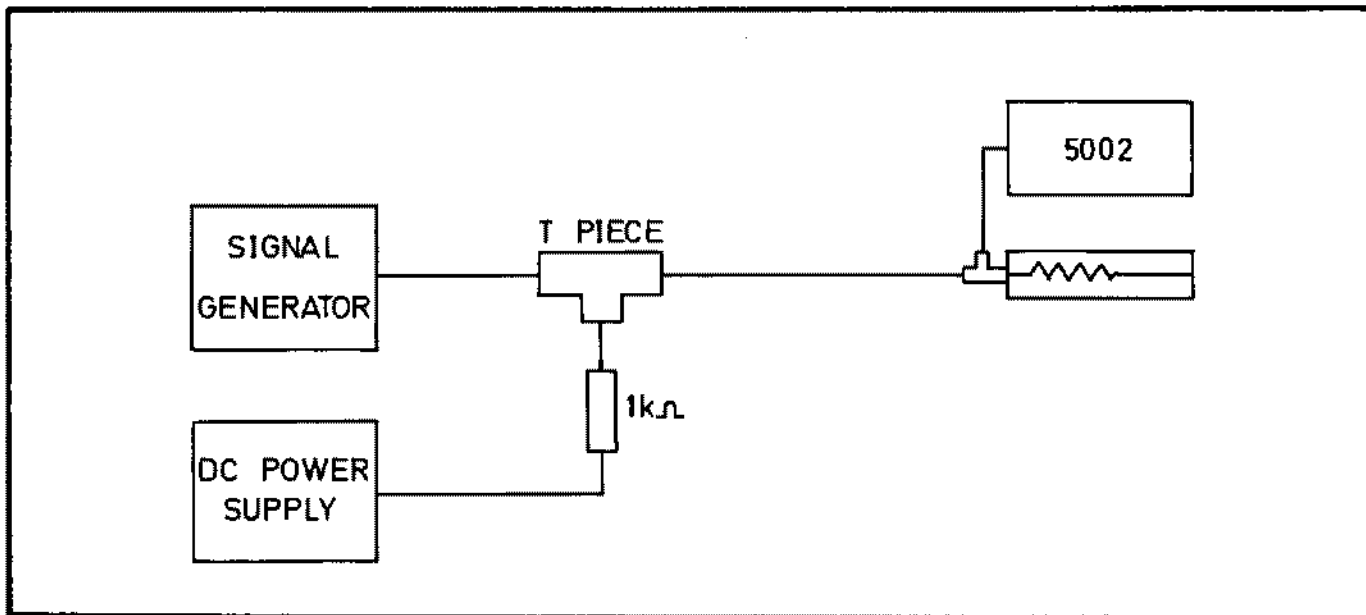

Fig. 6.11 Rectified Mean Check
6.5.17.2 Connect the test equipment as shown in Fig. 6.11.